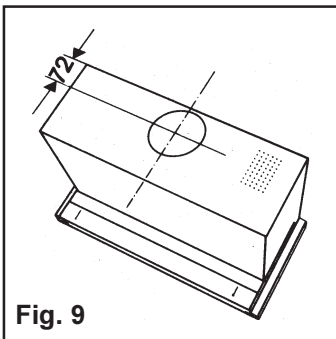

Fig. 9
- The dimensions and position of the air outlet are given in figure 9.